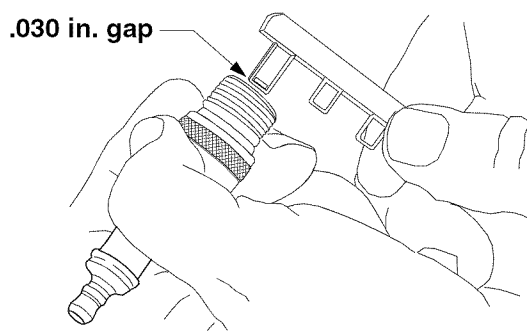

Figure 27
- Check the gap using a wire feeler gauge. Adjust the plug gap to 0.030 in. (0.76 mm) by carefully bending the ground electrode. See Figure 27.